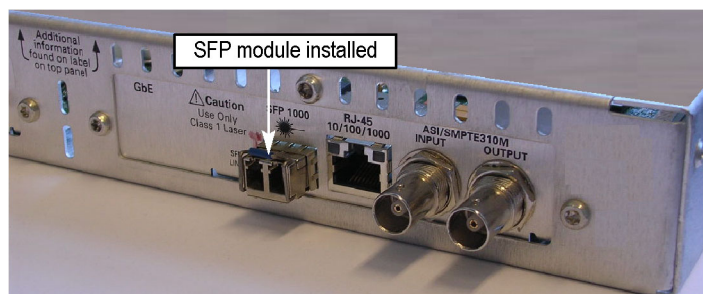

Figure 46: SFP module – installed
2. Insert the SFP module into the rear-panel SFP 1000 connector. (See Figure 46.) When fully inserted, the SFP module is latched in position.